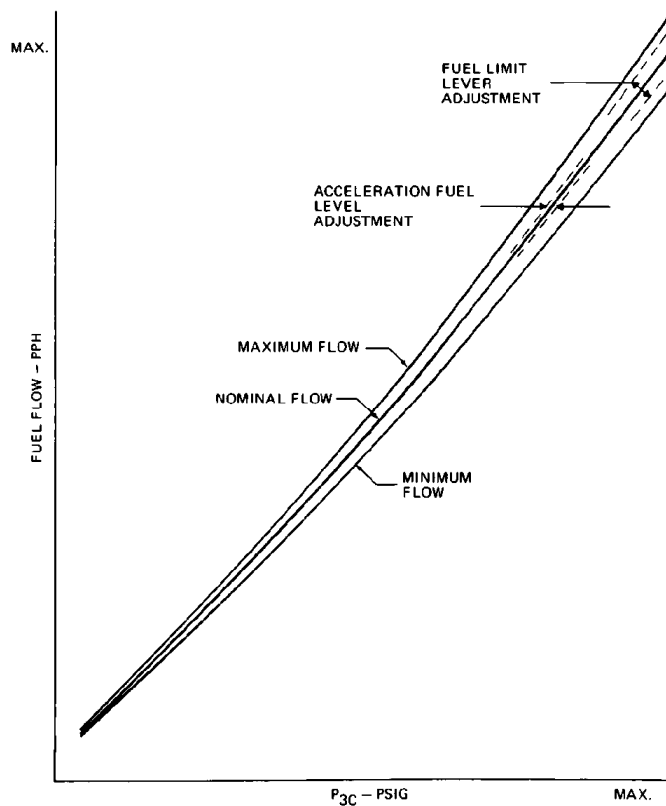

Figure 4-12. Typical Outlet Flow Schedule Graph Showing Effects of the Various Adjustments
2. Refer to the calibration schedule for the particular valve. Construct a graph using the specified minimum, nominal, and maximum flow rates versus P_{3c} (CDP) similar to that shown in Figure 4-12. This provides a representation of the unit's performance when the actual flow rates are plotted and assists in determining any adjustments which may be required.